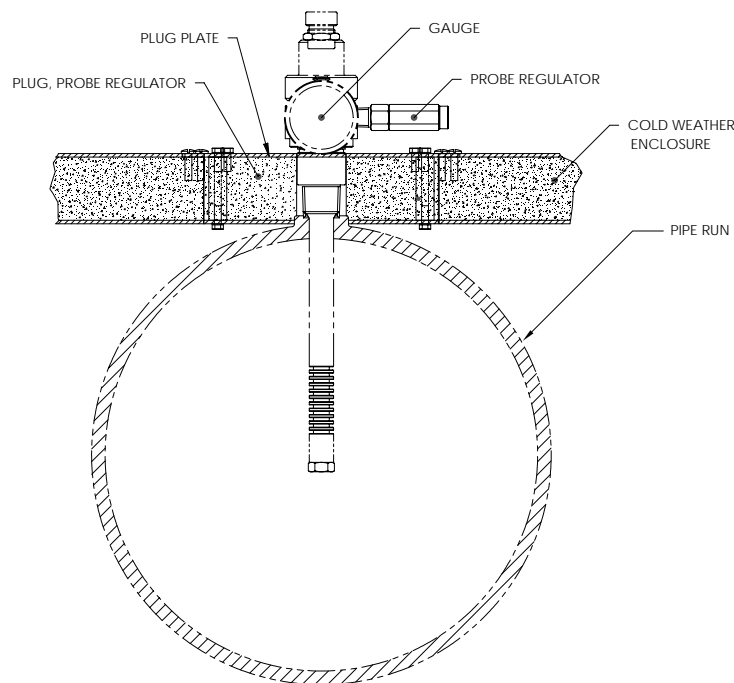

Figure 12 Installed Sample Probe and Access Plate Insulation
- 4) Align screw holes and attach cover plates with screws removed earlier in this installation process (see Figure 12).